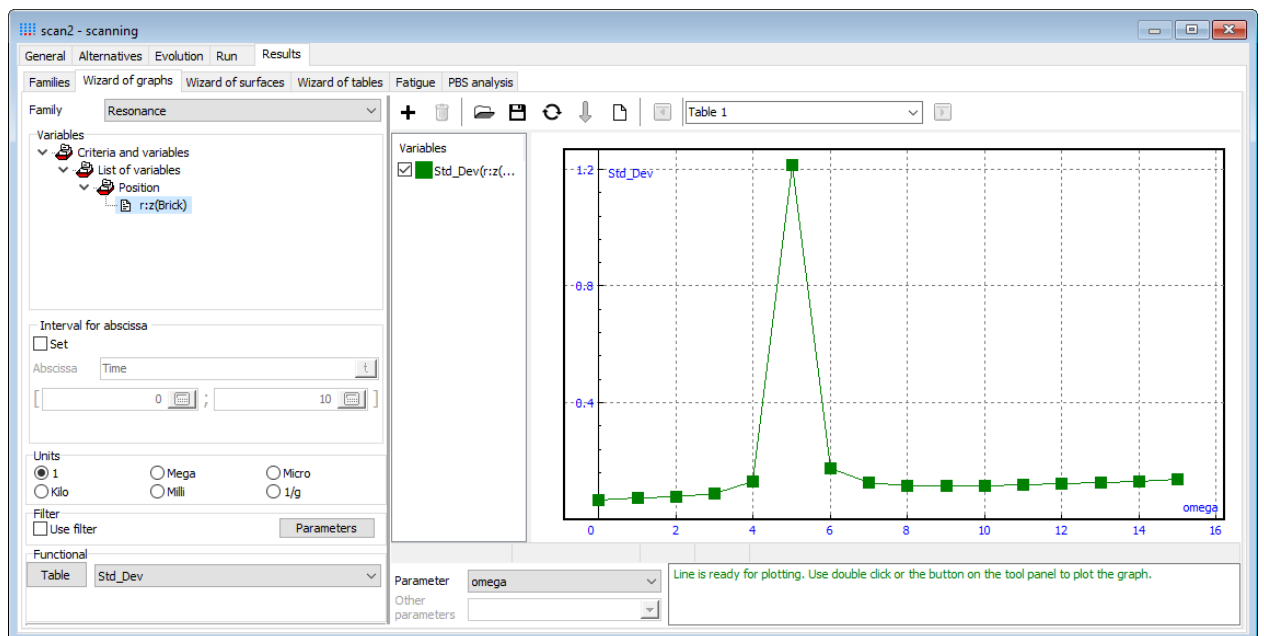

Figure 6.17. Wizard of graphs
The **Wizard of graphs** (see Figure 6.17) is intended for forming dependence between a functional of any calculated variable on any parameter, when other parameters are fixed. Comments in the right bottom corner of the window will help you.
- Choose a family, a variable to be analyzed, functional and parameter for computing dependence, see Figure 6.17.
Let us consider an example, see Figure 6.17. Here we can see the root mean square of the vertical position of the 1 d.o.f. oscillation system in dependence on *omega* parameter. In this case of forced oscillation *omega* means the frequency of the driving force. The resonance case is clearly shown.